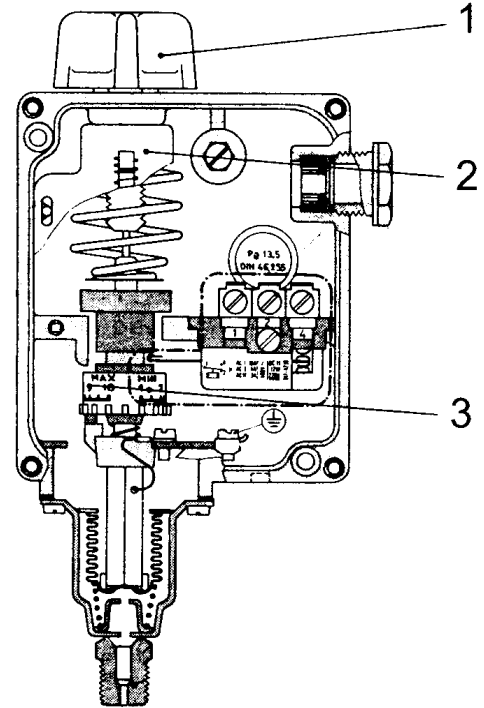

Fig. 10
- **Pressure switch calibration (Fig. 10)**